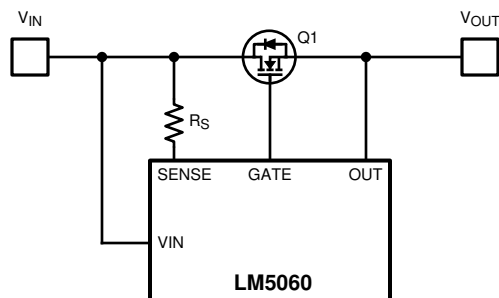

Figure 27. Setting the V_{DS} Threshold
The LM5060 monitors the V_{DS} voltage of the external N-Channel MOSFET. The drain to source voltage threshold (V_{DSTH}), which is set with the resistor R_S , is shown in Figure 27;
- $R_{DS(ON)}$ is the resistive drop of the pass element Q1 in Figure 27